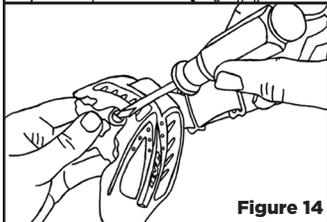

Figure 14
- 3 Once both gray retention clips have been removed from the frame remove the screw connecting the soft earpiece to the retention clip. [See Figure 14]